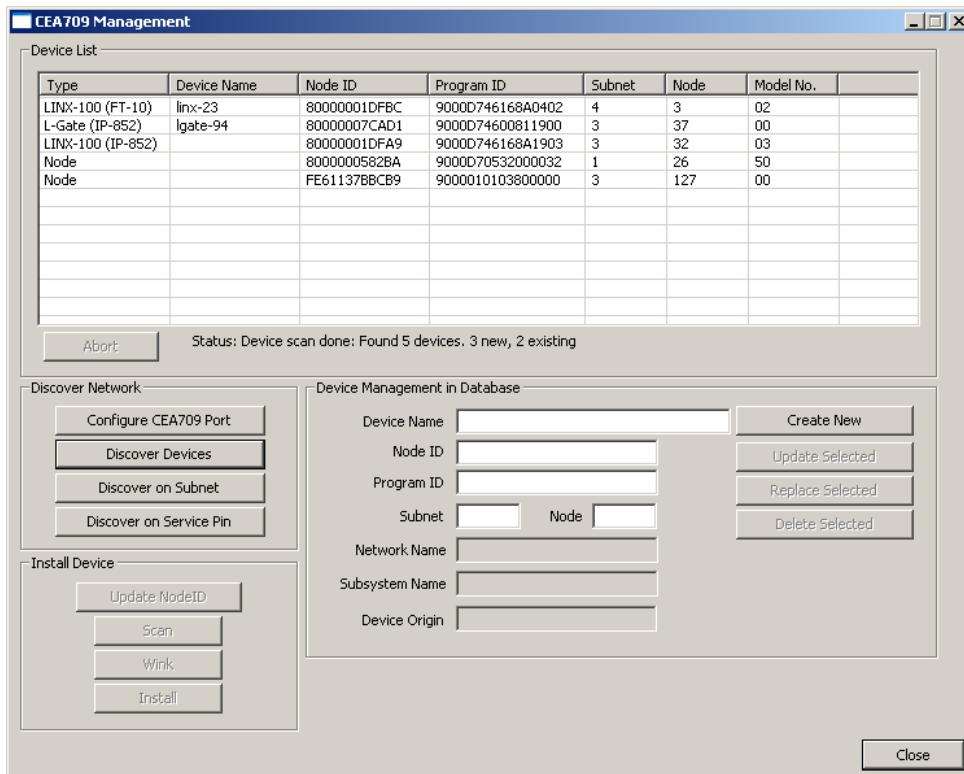

Figure 119: CEA-709 network scan dialog.
3. Right-click on that folder and select **Scan CEA709/852 Network....** This opens the **CEA709 Management** dialog as shown in Figure 119.